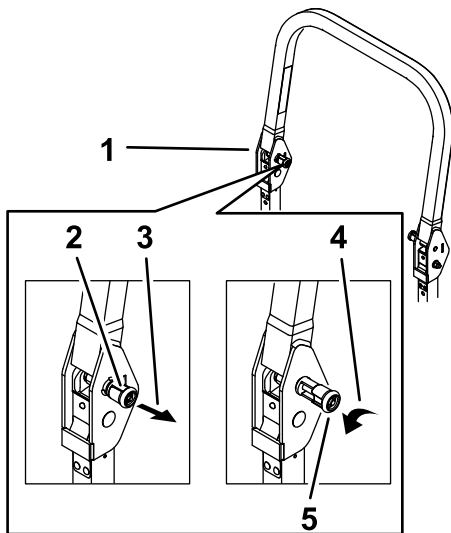

Figure 3
1. Pull the knob and rotate 90° to the unlatched position (Figure 3).
2. Raise the roll bar to the operate position, and rotate the knobs so that they move partially into the grooves (Figure 3).
3. Raise the roll bar to the full upright position while pushing on the upper roll bar and the pins snap into position when the holes align with the pins (Figure 3).